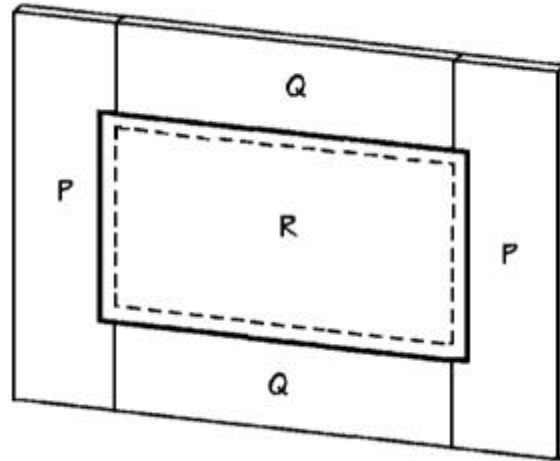

Figure 9
1. Cut one upper drawer front (O) from 1 x 8 pine, measuring 18-1/2 inches long.
2. The lower drawer front consists of 1/4-inch plywood framed with 1 x 4 pine. Cut two vertical drawer frames (P) from 1 x 4 pine, each measuring 13 inches long.
3. Cut two horizontal drawer frames (Q) from 1 x 4 pine, each measuring 11-1/2 inches long.
4. Place the two vertical drawer frames (P) on a level surface, parallel to each other and 11-1/2 inches apart. Fit the two horizontal drawer frames (Q) between the ends of the two vertical drawer frames, as shown in *Figure 9*. Apply glue to the meeting surfaces and clamp the assembly for a few hours.
6. Cut one center drawer front (R) from 1/4-inch plywood, measuring 7 x 12-1/2 inches.
7. Apply glue to the meeting surfaces and fit the center drawer front (R) into the routed edges of the assembled drawer front frame. Nail through the center drawer front (R) into the routed edges of the vertical drawer frames (P) and the horizontal drawer frames (Q). Use 3/4-inch brads driven at an angle and spaced every 4 inches.
1. The door consists of 1/4-inch plywood framed with 1 x 4 pine. Cut two vertical door frames (S) from 1 x 4 pine, each measuring 25 inches long.
2. Cut two horizontal door frames (T) from 1 x 4 pine, each measuring 11-1/2 inches long.
3. Place the two vertical door frames (S) on a level surface, parallel to each other and 11-1/2 inches apart. Fit the two horizontal door frames (T) between the ends of the two vertical door frames, as shown in *Figure 9*. Apply glue to the meeting surfaces and clamp the assembly overnight.
5. Cut one center door front (U) from 1/4-inch plywood, measuring 12-1/2 x 19 inches.
6. Apply glue to the meeting surfaces and fit the center door front (U) into the routed edges of the assembled door front frame. Nail through the center door front (U) into the routed edges of the vertical door frames (S) and the horizontal door frames (T). Use 3/4-inch brads driven at an angle and spaced every four inches.